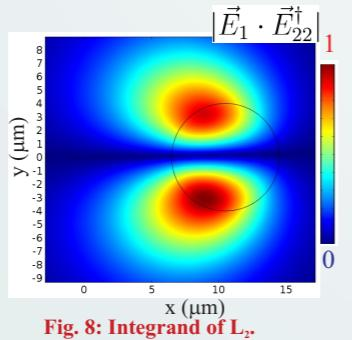
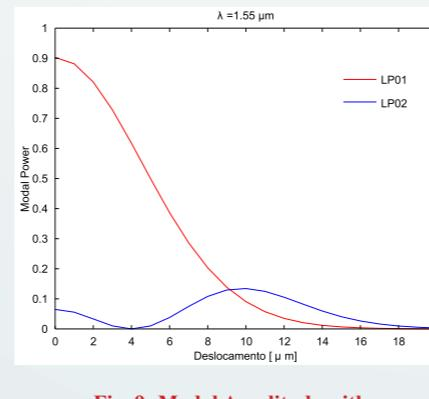

Fig. 8: Integrand of  $L_2$ .
Fig. 9: Modal Amplitude with transversal misalignment.
- $L_2(\delta)$  has maximum at  $\delta = 8 \mu\text{m}$  (Fig. 8), where the maximum of the  $E_1$  mode superposes the maximum of the  $E_2$  mode (fig. 9).